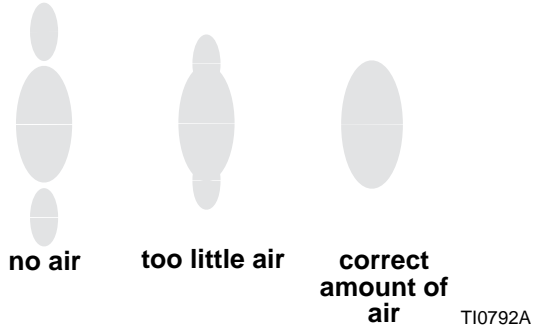

FIG. 5. Spray Pattern Problems
2. See FIG. 5. Set atomizing air pressure at about 5 psi (0.35 bar, 35 kPa) when triggered. Check spray pattern, then slowly increase air pressure until tails are completely atomized and pulled into spray pattern. Do not exceed 100 psi (0.7 MPa, 7 bar) air pressure to gun.